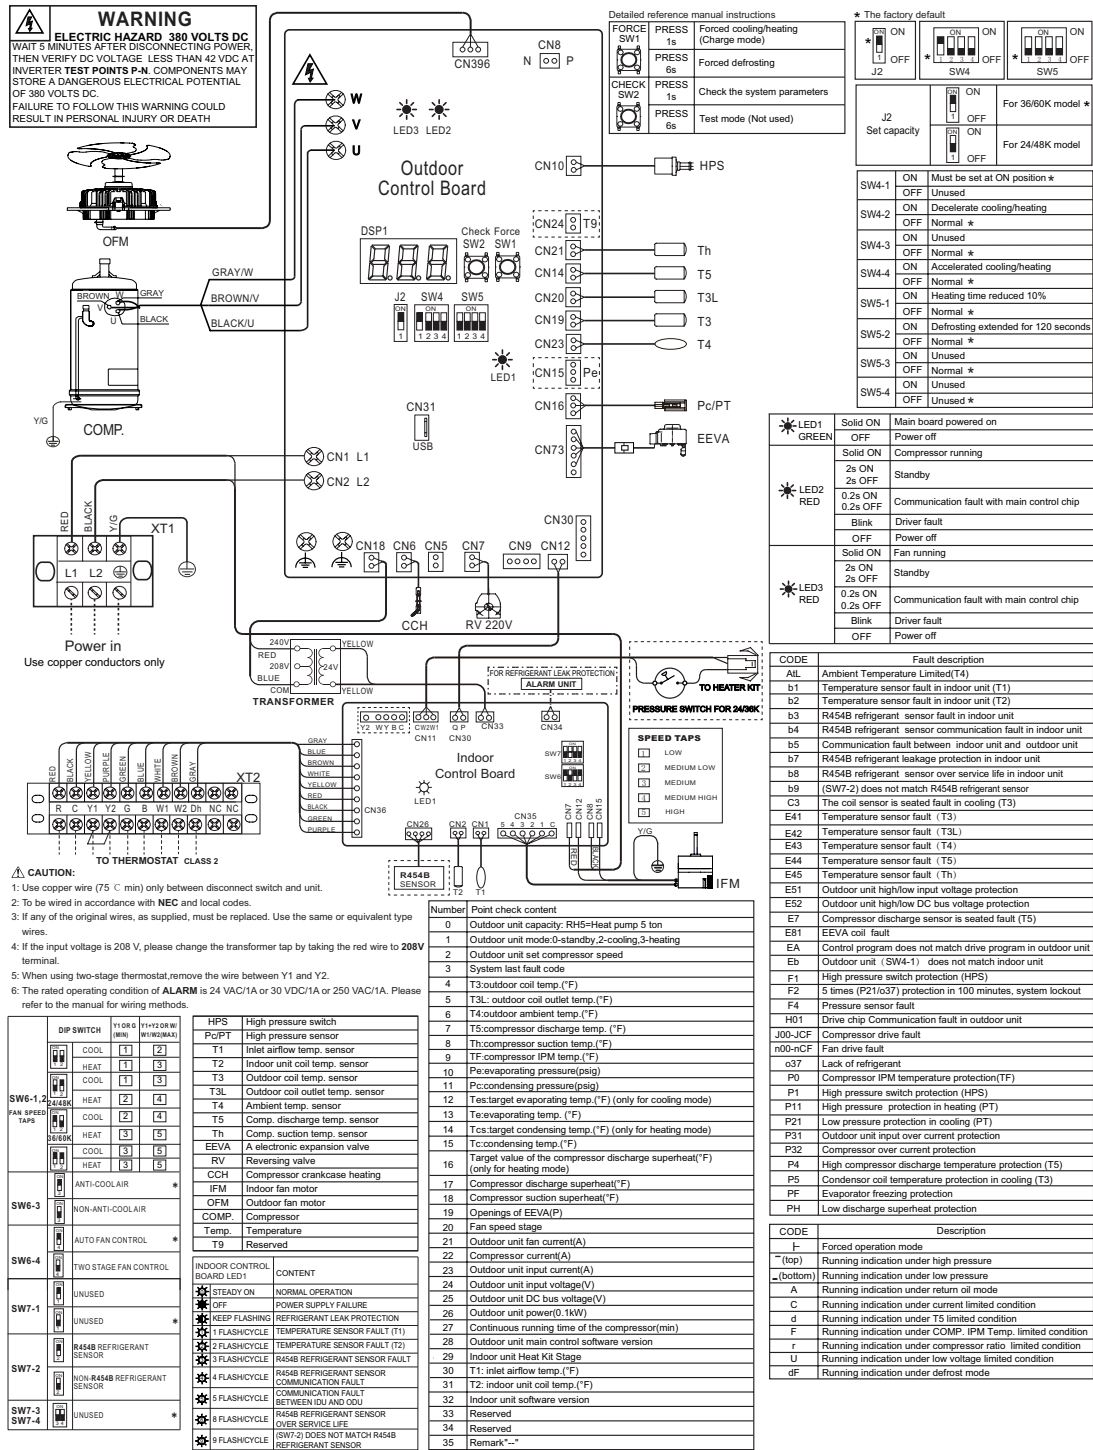

Figure 79
5. Check all electrical wiring and connections. Correct as needed, referring to the wiring diagram. (Refer to Figure 79).